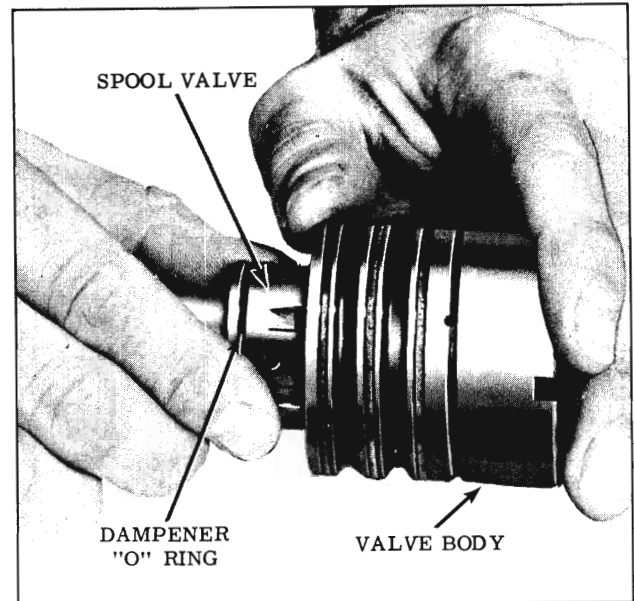

Fig. 4-263 Removing Spool Valve
3. Push the spool valve out of the flush end of the valve body until the dampener "O" ring is exposed, then carefully pull the spool from the valve body while rotating the valve. (Fig. 4-263) If the spool valve becomes cocked, carefully realign the spool valve then remove.